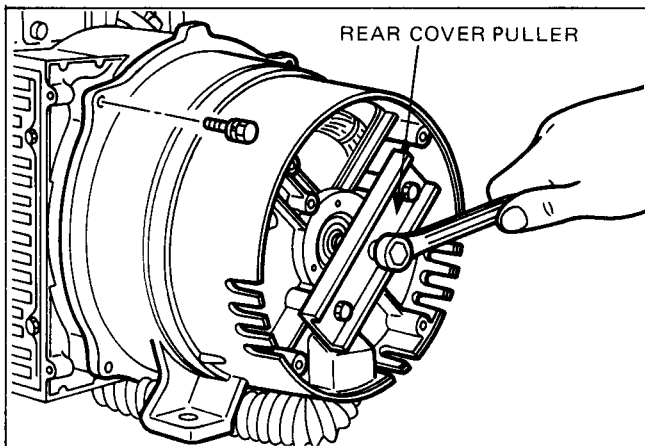
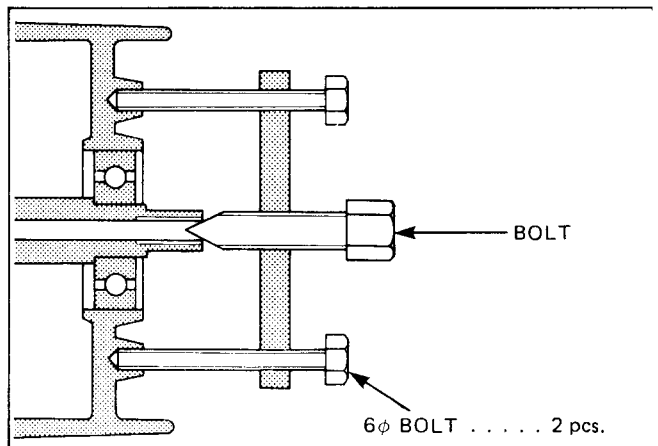

Fig. 10-14
Fig. 10-15
(3) Remove the four bolts which join the rear cover to the front cover.
(4) Take off the rear cover. Use the special tool "REAR COVER PULLER" to remove the rear cover. (See Fig. 10-14.) a. Insert the two bolts of the special tool into the thread holes of the rear cover. b. Apply the center bolt of the special tool to the center hole of the rotor shaft. c. Tighten the center bolt to pull out the rear cover. (See Fig. 10-15.)	Insert the two bolts suf- ficiently and evenly, or the thread holes may be damaged at removing.